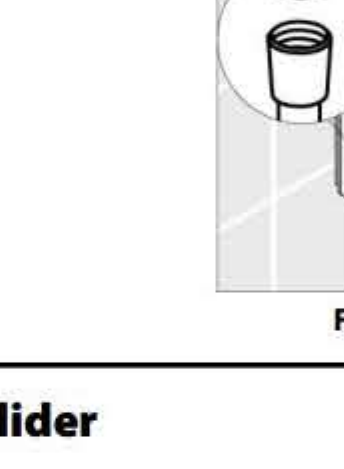

Figure 18
- Make sure that the indexing mark on the thermostatic mixer sleeve is at the 12:00 position. (See Figure 18.)
- Install the thermostatic mixer handle. (See Figure 18.)